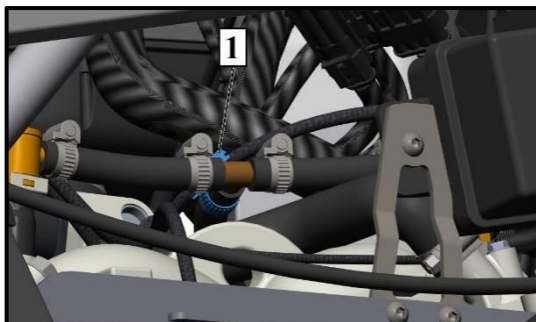

Fig.13
5.Loosen and remove the clamp (Pos. 1, Fig. 13) from the fuel hose connected to the T-shaped fitting using a 7 mm slotted screwdriver or an end screwdriver.